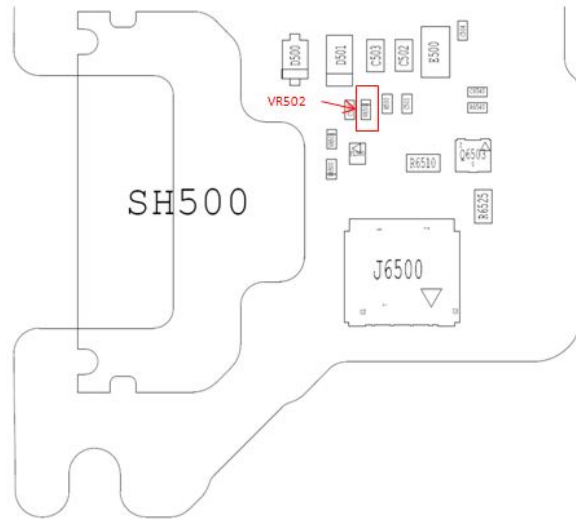

Fig. 1 - VR502 Diode Location
- Overvoltage Protection Diode VR502 (P/N: 48014187001) Damaged. Component is damaged from an undetermined over-voltage condition creating a low resistance on Pin #4 (EMU_ID) of the uUSB Connector. See Fig. 1 below.